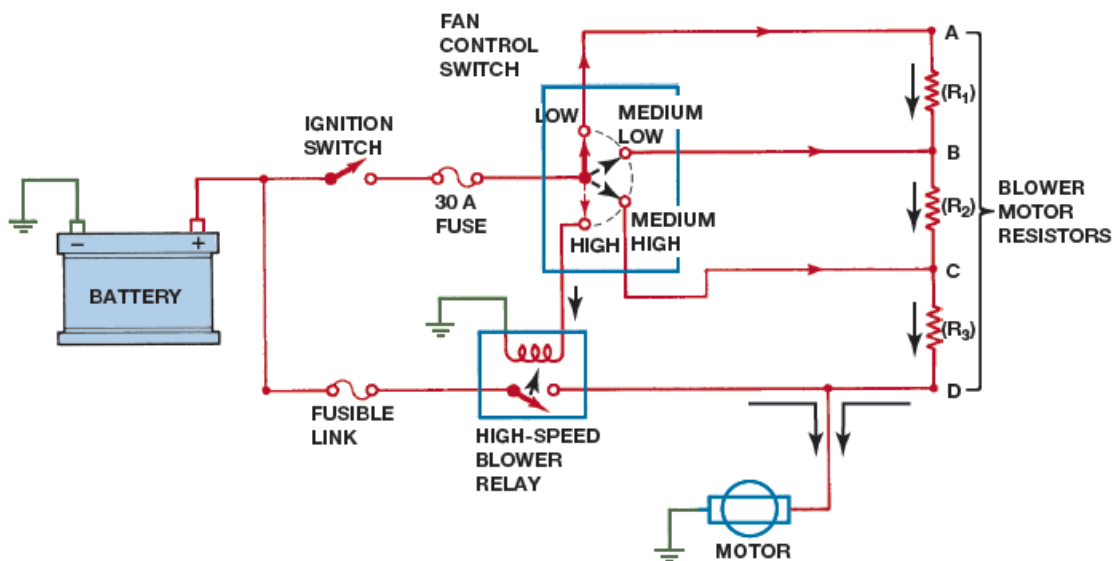

Figure 8. Blower motor circuit for a four speed fan control.
- Through one or more resistors to reduce the voltage and the current to the blower motor which then rotates at a slower speed Figure 8.